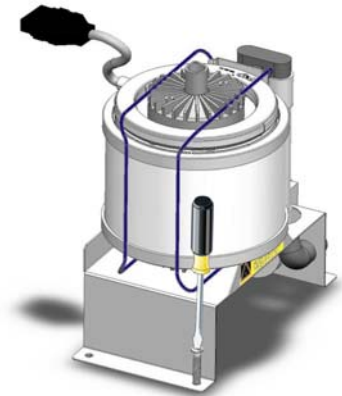

Fig. 17
2. Fix the humidifier so it is level above the cell or base by inserting the fixing screws in the 4 holes of the support base (fig. 17).